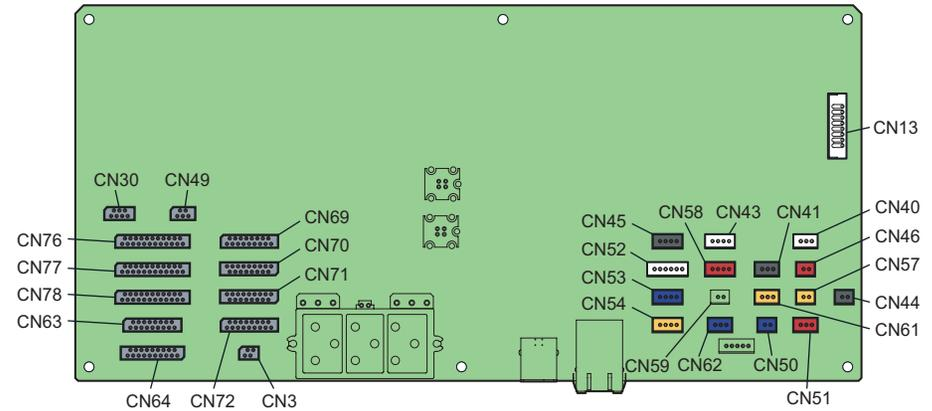

Figure 4-29. Connector Layout of the BOARD ASSY., MAIN
- Connect the FFCs to their correct positions matching the numbers written on the FFCs with those printed on the board as shown in *Figure 4-29* and *Table 4-4*.